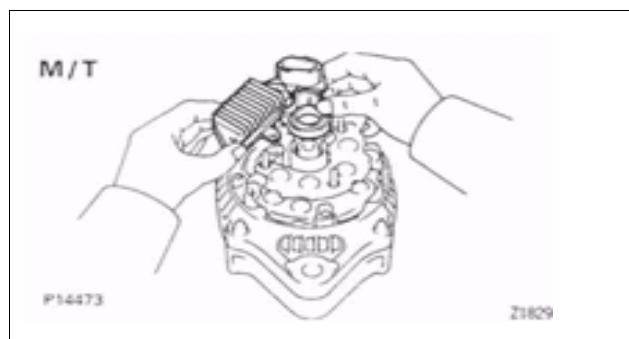

Figure 443
- Install the brush holder cover. (see Fig. 443**Figure 443**)